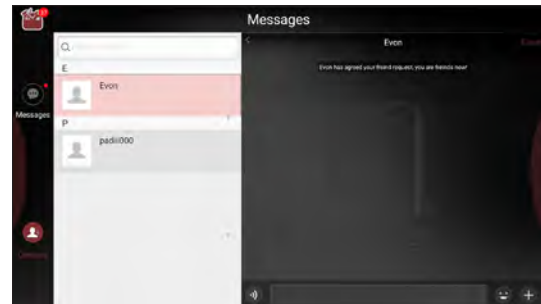

Fig. 6-10
- If you have added the partner into the Contact, tap **+** in Fig. 6-10 and select “Tech 2 Tech” from the pull-down option list.